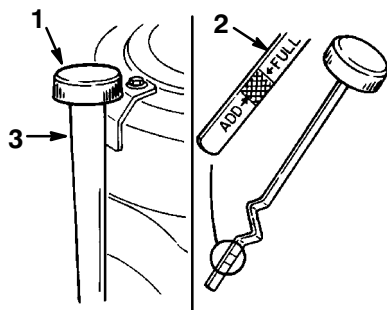

Figure 15
3. Clean around the oil dipstick (Fig. 15) so dirt cannot fall into the filler hole and damage the engine.
4. Unscrew the oil dipstick and wipe the metal end clean (Fig. 15).
5. Screw the oil dipstick fully onto the filler tube (Fig. 15). Unscrew the dipstick again and look at the metal end. If the oil level is low, slowly pour only enough oil into the filler tube to raise the level to the Full mark.
7. Slowly pour approximately 80% of the specified amount of oil into the filler tube (Fig. 15). Check the oil level; refer to Checking the Oil Level, page 20, steps 4-5.
5. Slowly pour approximately 80% of the specified amount of oil into the filler tube (Fig. 15). Check the oil level; refer to Checking Oil the Level, page 20, steps 4 and 5.